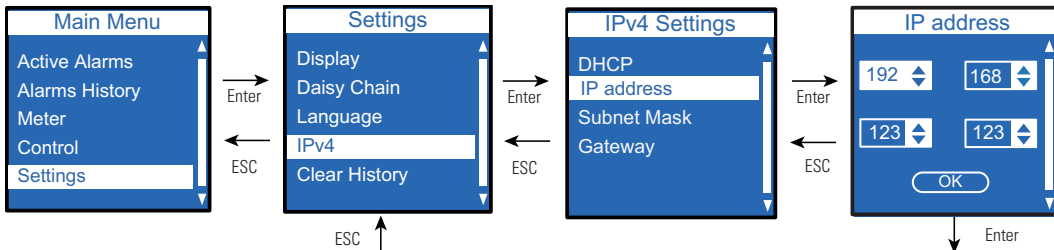

Figure 40. Set the Static IP Address
- 2. Set the static IP address (see Figure 40). Wait 10 seconds.